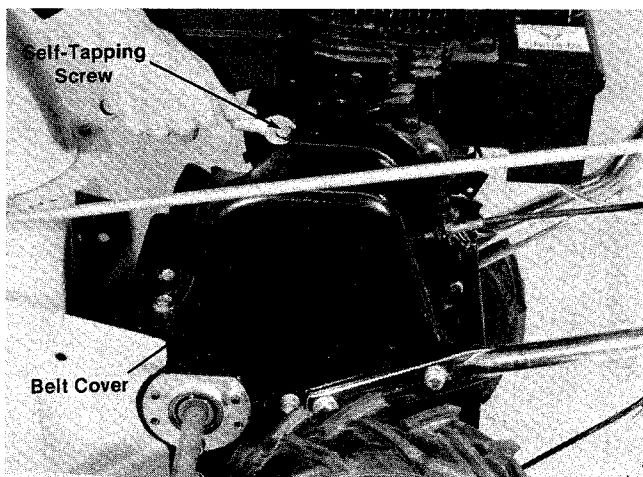

FIGURE 35.
1. Remove the three self-tapping screws from the belt cover using a 7/16" wrench. See figure 35.